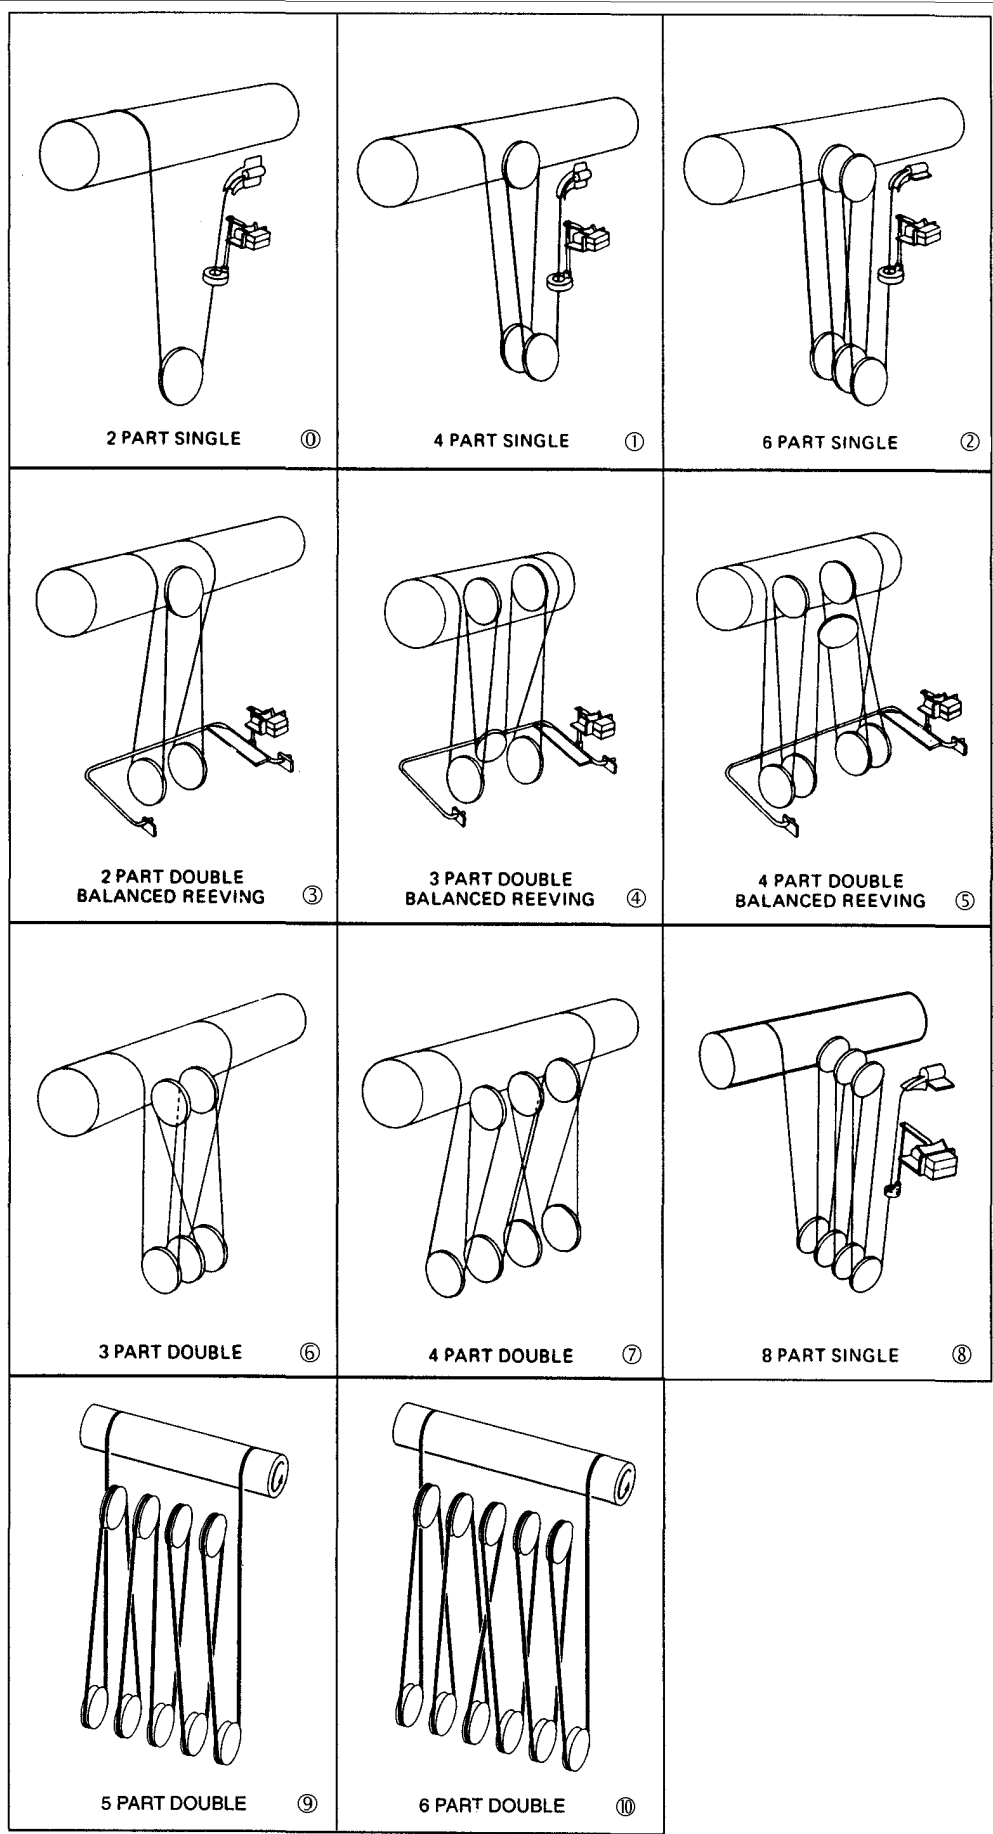

Figure 5-8. Reeving Diagrams
Before removing the old rope, refer to reeving diagrams, Figure 5-8. Face the rope drum on your hoist from the side which the rope comes off drum. To assist with reeving your hoist, select the reeving diagram for your hoist. Note the description (such as 3 part double reeved, Figure 5-8, ④) and refer to paragraph below with the same description which describes reeving procedure.
- (1) Lower the bottom block to a scaffold located 6 to 7 feet below hoist to relieve tension on wire rope. (Bottom block may be lowered to floor if desired; however, to handle less weight and for ease of reeving adequate scaffold below the hoist is recommended.)
- (2) Remove bottom block sheave guard.
- (3) Remove key plates from both sides of sheave pin and slide sheave pin from bottom block.
- (4) Lift out sheaves from the top of the bottom block and remove wire rope.
- (5) Remove key plates or snap rings from upper block sheave(s) and slide out upper block sheave pins, releasing upper block sheaves. Remove wire rope from sheaves.
- (6) Make certain all personnel are clear of hoist and operate hoist "DOWN" to completely unwind all wire rope from drum. Stop hoist so drum anchor slot(s) is accessible. Remove live rope end socket(s) from drum.
- (7) TURN OFF POWER TO HOIST.
- (8) Open electrical compartment cover on single reeved hoists to remove dead end socket.
- (1) Pull far end of rope toward end of rope nearest hoist, until both ends are even and a loop is formed. Place fittings on both ends of rope in anchor slots on rope drum. Be sure end fittings are properly seated.
- (2) With all personnel clear of hoist - TURN ON POWER.
- (3) Operate hoist "UP;" guiding rope into grooves at both ends of drum, until the distance from the drum to the loop is:
- (4) Proceed with reeving as described in appropriate paragraph below and the reeving diagram for your hoist.
See Figure 5-8, ⑩ for diagram.
- (1) Thread the remaining cable end through limit switch weight, then pass it over partial sheave, inside hoist, and insert in anchor fitting at hoist frame. Be certain power is off before opening electrical compartment cover for access to anchor fitting. Properly seat rope end fitting in socket and replace cotter pin in end of socket.
- (2) Grasp loop, formed after installing end anchor, and place bottom block sheave in loop. Lower sheave into bottom block and insert sheave pin. Replace key plates and bolts holding sheave pin in place.
- (3) Replace sheave guard. Make certain rope is not twisted. Should the two parts of rope tend to wind around each other, remove cable from anchor slot and untwist cable. Reattach the cable anchor.
- (4) Lubricate cable per Paragraph 4-3.
See Figure 5-8, ⑪ for diagram.
See Figure 5-8, ② for diagram.
- (1) Grasp cable at a point one-third (approx. 14'0") the distance hanging below the rope drum and form a loop. Place one upper sheave in this loop. Slide upper sheave with cable into sheave pocket; partially insert sheave pin to hold sheave in place.
- (2) Repeat (1) above and install second upper sheave with rope. Insert sheave pin and install key plates and bolts to secure sheave pin.
- (3) Thread rope end socket through limit switch weight; then, pass it over partial sheave, inside hoist, and insert in anchor fitting at hoist frame. Be certain power is off before opening electrical compartment cover for access to anchor fitting. With end fitting properly seated in anchor, replace cotter pin in end of socket. Three loops have now been formed for bottom block sheaves.
- (4) Place sheave in each loop. Install one sheave with cable in bottom block; partially insert sheave pin to hold sheave in place. Note: Be certain to install spacer washers between sheaves, when shown on parts illustration.
- (5) Repeat step 4 for remaining bottom block sheaves. Install sheave pin through sheaves. Replace key plates and bolts securing sheave pin.
- (6) Replace sheave guard.
- (7) Lubricate cable per Paragraph 4-3.
See Figure 5-8, ③ for diagram.
- (1) Form loops in the two ropes coming from rope drum. Place these loops into bottom block pockets and slide pipe or rod through sheave pin holes. Note position of ropes passing limit stop bar.
- (2) Partially insert upper block sheave pin in opening and install one spacer washer. Raise remaining rope up to hoist, form a loop and place upper sheave in this loop.